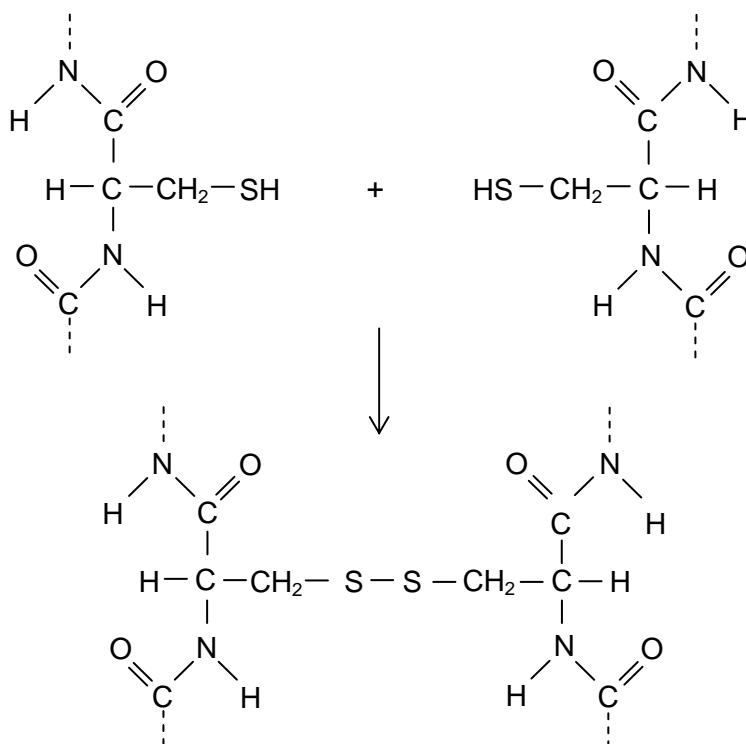

Figure 1.15 – diagram showing the formation of a disulphide bridge
- covalent disulphide bridges formed between cysteine residues at different locations in the primary sequence (Figure 1.15)